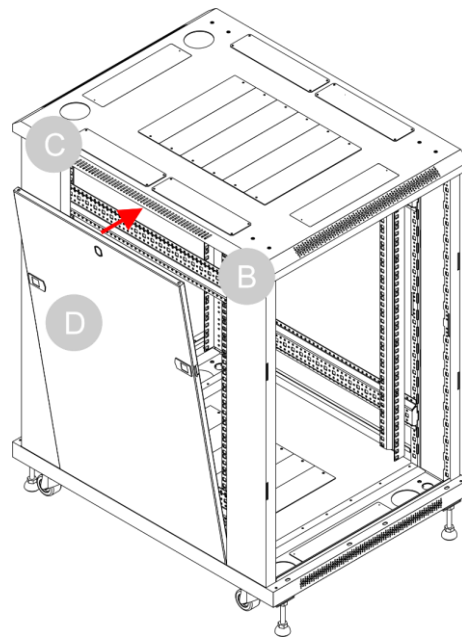

Fig. 36
20) Carefully tilt the **side panel (D)** until it is a few centimeters from the **top plate (C)**, as shown in Fig. 36.